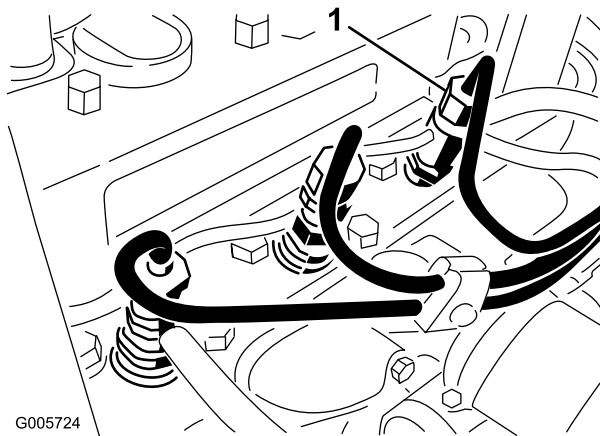

Figure 48
1. Loosen the pipe connection to the No. 1 injector nozzle and holder assembly at injection pump (Figure 48).